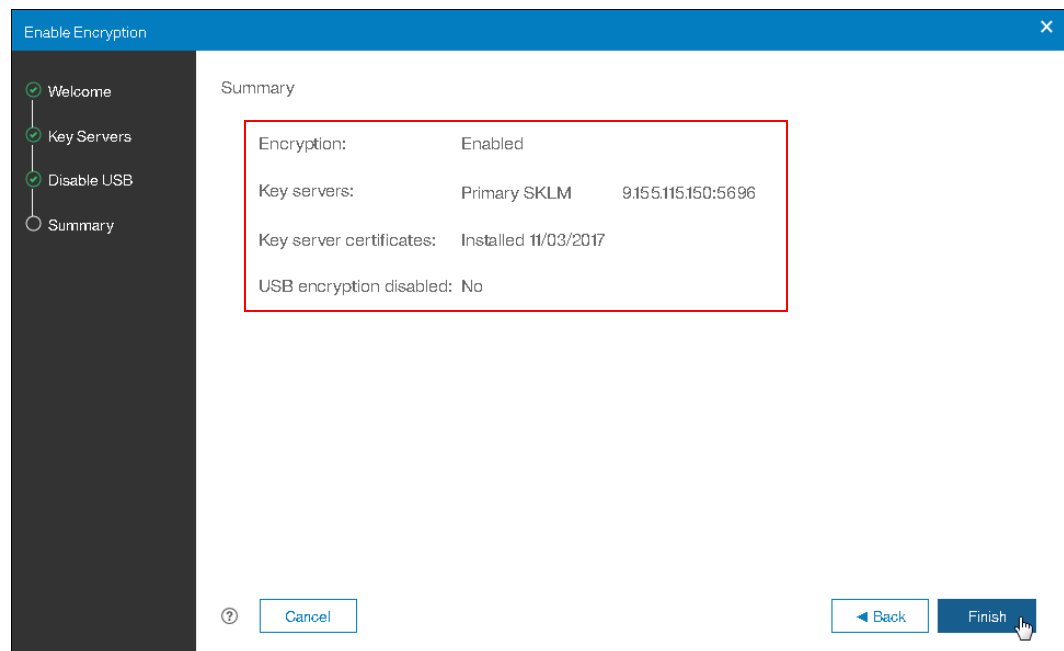

Figure 7-58 SKLM confirmation summary page
22. Review the summary page and confirm that the information is correct. Click **Finish**, as shown in Figure 7-58.